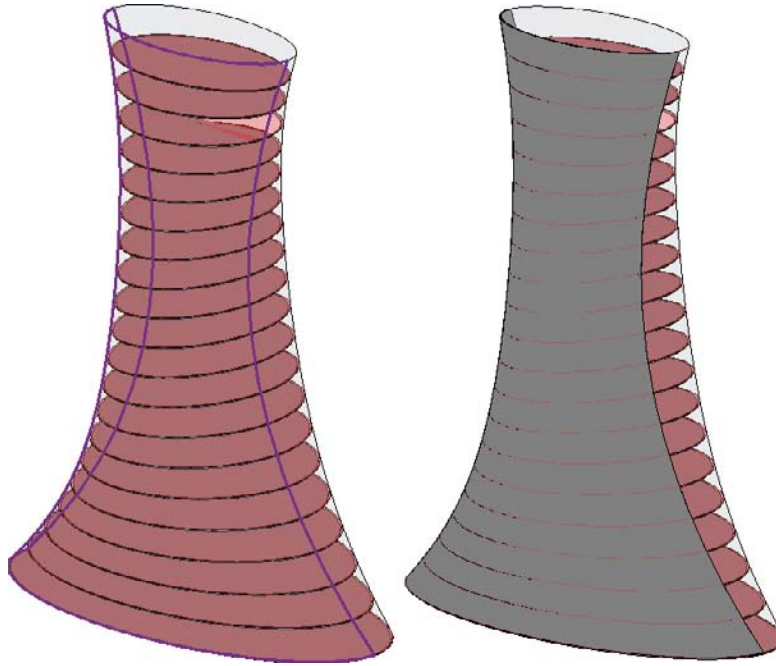

Figure 7.91
4. Select the near-side vertical curving face, as shown in Figure 7.91. The wall will be created automatically once the face is selected. The tool remains active, and you could select additional faces if desired. Select Modify at the left end of the ribbon to cancel the Wall By Face tool.